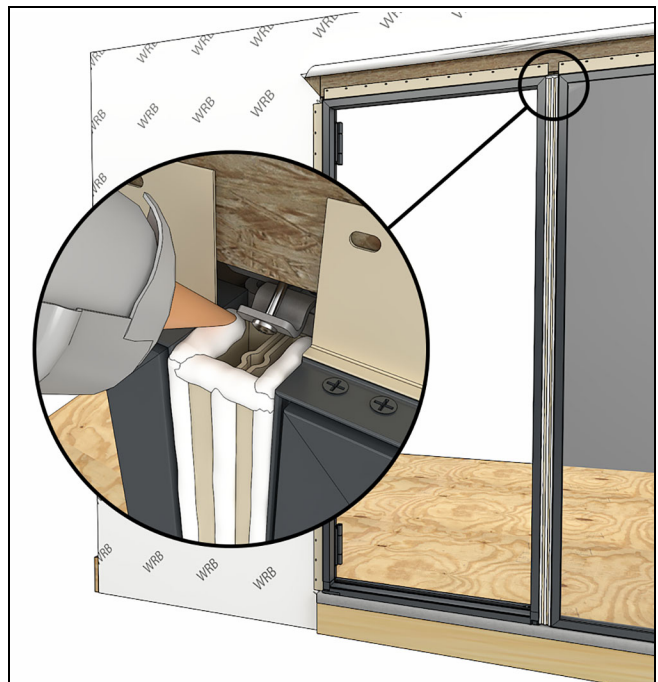

Figure 248
25. Apply sealant on the ends of the mull filler and over the ends of the tube steel as shown in Figure 248.